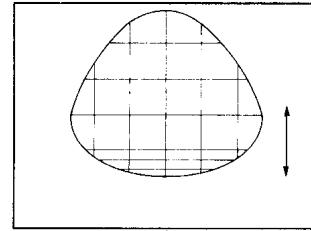

fig. 5
- Adjust the Vertical Symmetry to obtain symmetrical scanning between upper and lower picture (Fig. 5).